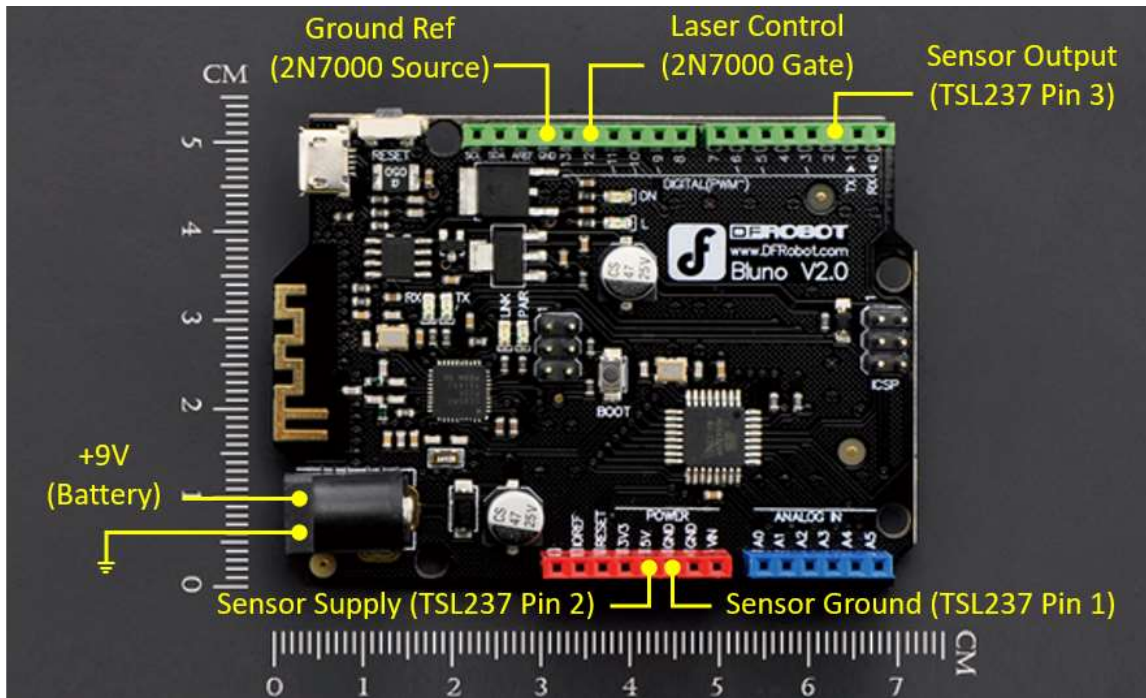

Figure 8. Bluno Microcontroller Connections to Light Source and Sensor
5. Plug the pins of the VCSEL control circuit and the light sensor into the Bluno board at the locations shown in Figure 8. Plug the Bluno board into the LCD shield and secure